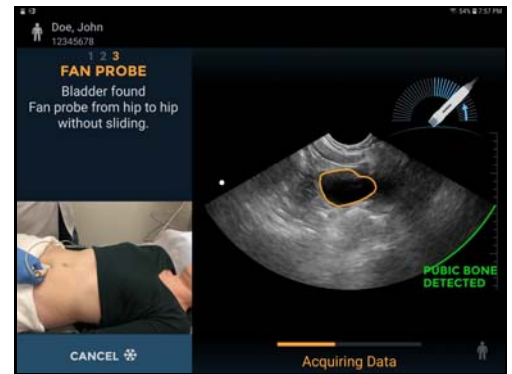

Fig 3.4 Acquire data
- When the bladder has been found, an orange outline will appear around the bladder. The pubic bone indicator will appear as a green curved line (Fig 3.4).